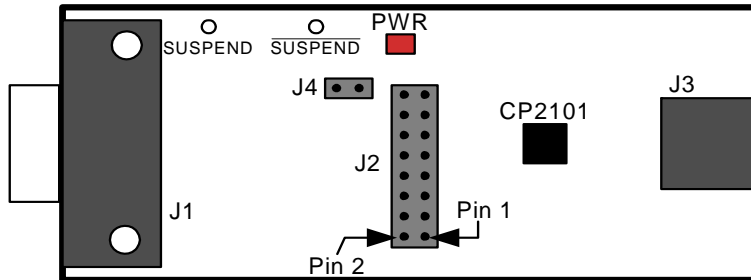

Figure 3. CP2101 Evaluation Board
The CP2101 Evaluation Kit includes an evaluation board with a CP2101 device pre-installed for evaluation and preliminary software development. Numerous input/output (I/O) connections are provided to facilitate prototyping using the evaluation board. Refer to Figure 3 for the locations of the various I/O connectors.
- Updated Figure 3 on page 4: